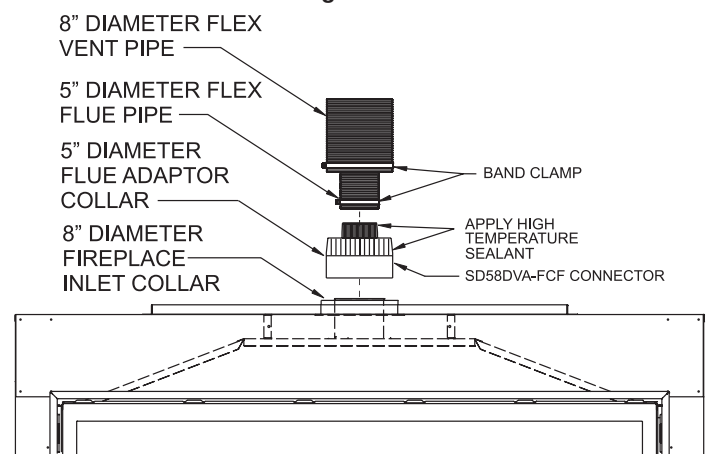

Figure 59b
NOTE: For installation of Flex Venting on Fireplaces that have Flue and Inlet Vent collars flush with top of the fireplace, it is recommended that an SD58DVA-FCF Connector be used. When using the SD58DVA-FCF Flex Vent Connector, it will require removing (or cutting off) the 5" diameter adapter from the DVVK5F Flex Flue. See Step 10b and Figure 59b.
NOTE: For installation of Flex Venting on Fireplaces that have Flue and Inlet Vent collars flush with top of the fireplace, it is recommended that an SD58DVA-FCF Connector be used. When using the SD58DVA-FCF Flex Vent Connector, it will require removing (or cutting off) the 5" diameter adapter from the DVVK5F Flex Flue. **See Step 10b and Figure 59b.**
- 10b.** If using the SD58DVA-FCF Vent Connector, apply sealant to the inside of the 5" diameter flex flue pipe, then connect the flex flue to the 5" flue takeoff on the SD58DVA-FCF Connector. Use a 5" diameter band clamp and a minimum of two screws to secure the flex flue to the SD58DVA-FCF Connector. **See Figure 59b.**